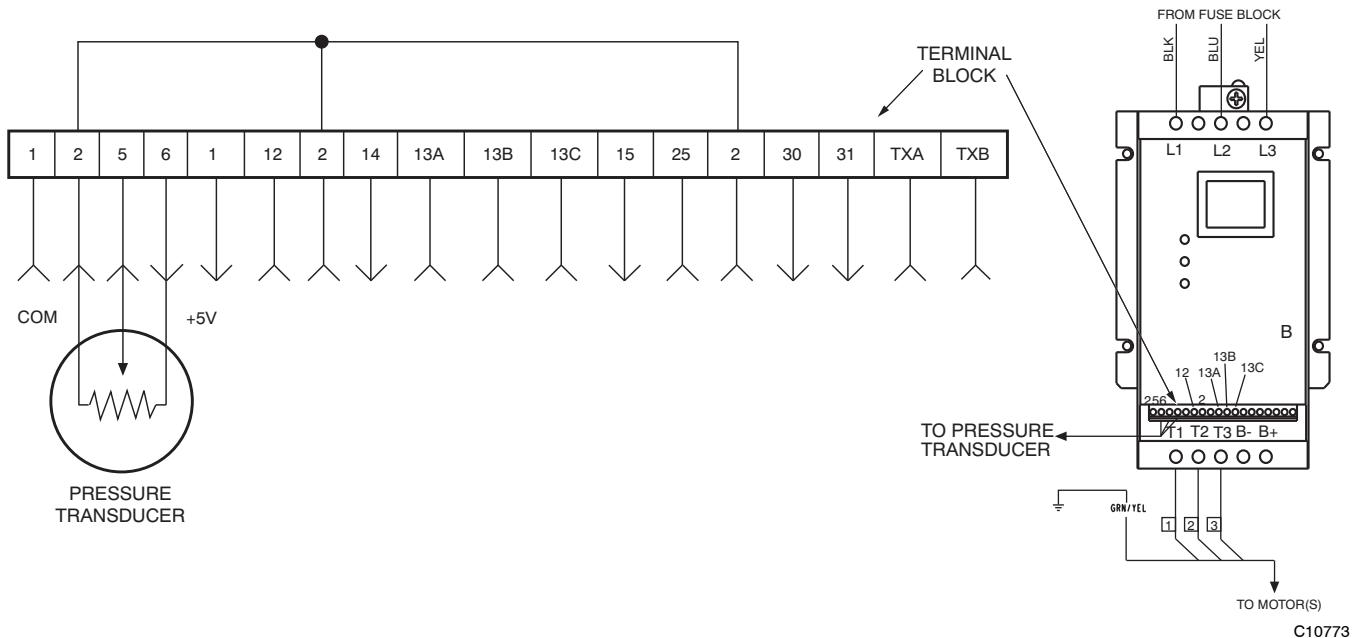

Fig. 22 - MM-V Bypass Conn PT Conn
4. Connect the resistor-wire assembly at terminals 5 and 6. See Fig. 22.
When the charge check/adjustment procedure is complete, restore the Motormaster V function by disconnecting unit power, then reversing steps 5 through 2 above. See Fig. 22